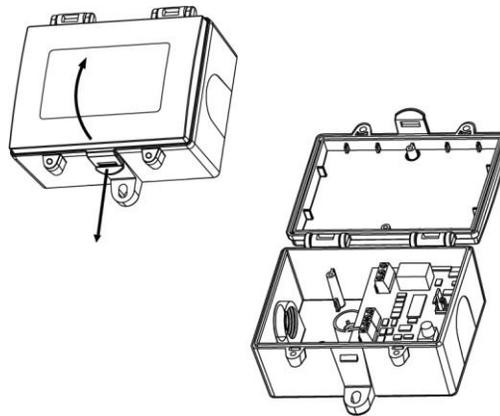

Figure 3: Open hinged cover.
2. The enclosure has a hinged cover with a latch. Open the cover by pulling slightly on the latch on the bottom side of the enclosure and at the same time pulling on the cover, as illustrated in Figure 3.